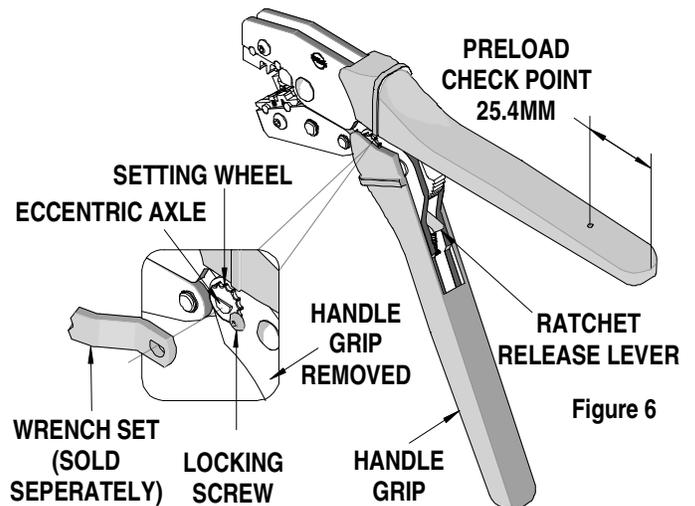

Figure 6
3. Make certain all pins; pivot points and bearing surfaces are protected with a thin coat of high quality machine oil. Do not oil excessively. The tool was engineered for durability but like any fine piece of equipment it needs cleaning and lubrication for a maximum service life of trouble free crimping. Light oil such as 30 weight automotive oil used at the oil points, every 5,000 crimps or 3 months, , shown in Figure 6 will significantly enhance the tool life.
Should this tool ever become stuck or jammed in a partially closed position, **Do Not force the handles open or closed.** The tool will open easily by pressing the ratchet release lever. See Figure 6.
How to Adjust Tool Preload (See Figure 6)